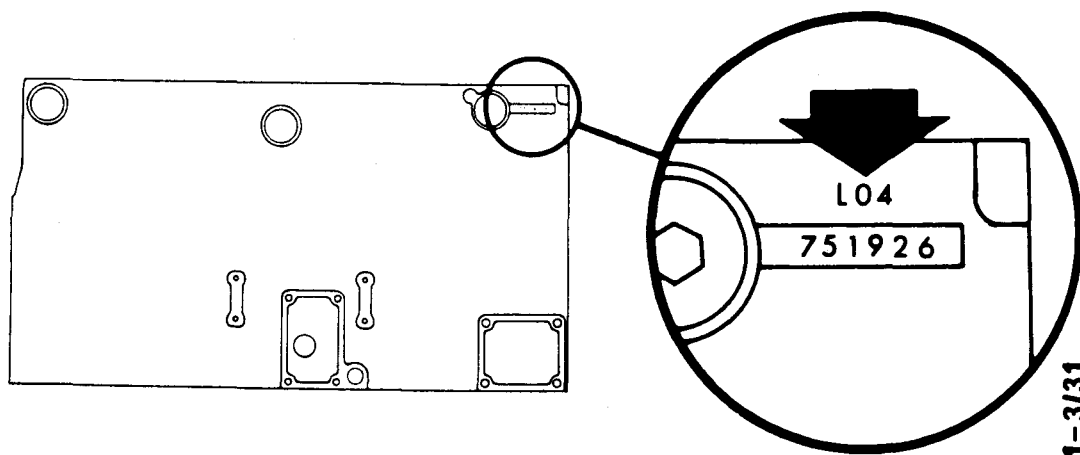

Fig. 1
When carrying out machining in the field, our directions must be strictly followed in order for a good result to be obtained. After machining, the block must be marked with "L04" at two places - see Fig. 1 and 2. **Every time pistons are changed on DS8 engines it is necessary to check if the block has been machined.**
1. Check if the marking "L04" or "L" respectively is to be found on the block or pistons. See Fig. 1, 2 and 3.
4. Mark the block with 6-mm high figures at two places according to fig. 1 and 2.